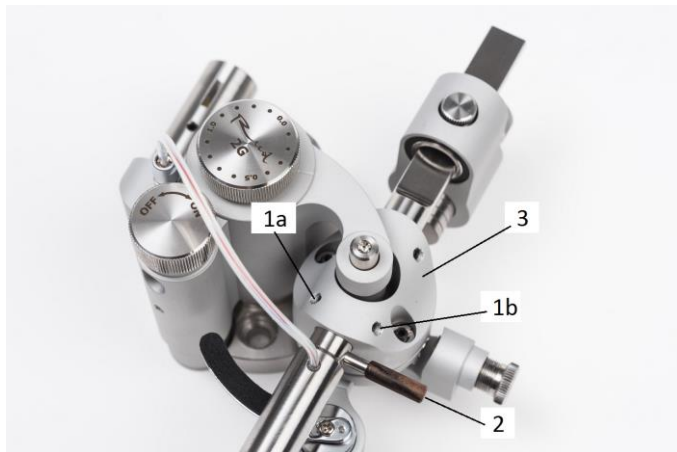

Figure 14
6. Azimuth adjustment (Figure 14)